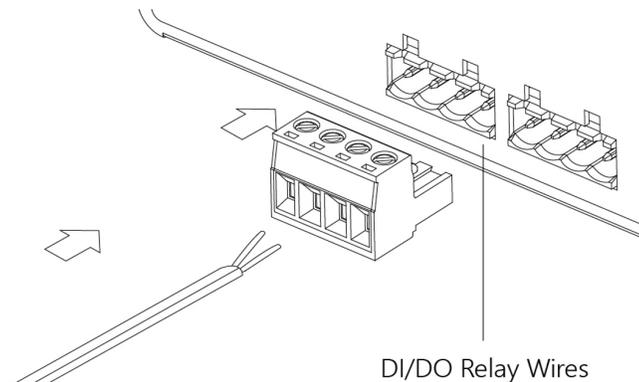

Figure 8. Connecting the DI/DO Terminal Block
2. Insert the DI/DO terminal block connector prongs into the terminal block receptor on the front of the switch chassis as shown in Figure 8.